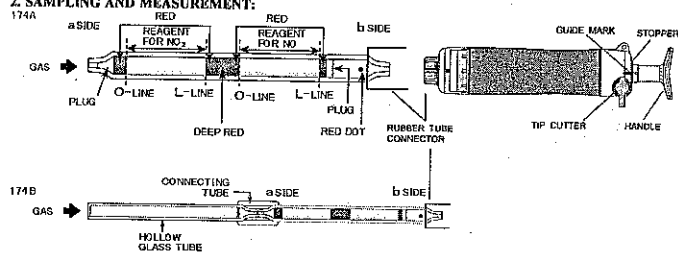
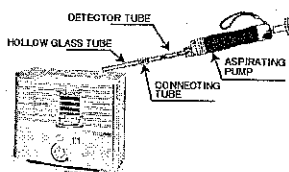
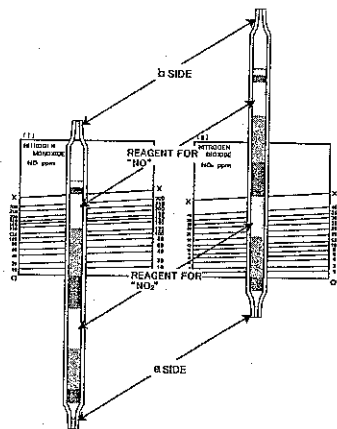

Fig. 1
Fig. 2
Fig. 3
- ① Break both ends of the detector tube.
- ② Insert the end of the detector tube of the b SIDE into the aspirating pump securely as shown in Fig. 1.
- ③ Align the guide marks on the shaft and stopper of the aspirating pump.
- ④ Pull the pump handle to a full stroke until it locks and wait for 1.5 minutes or until the completion of sampling is confirmed with the flow indicator of the pump. (See descriptions about the flow indicator in the instruction manual of the pump.)
- ⑤ On completion of sampling, remove the detector tube from the pump and read a concentration with the concentration chart as shown in Fig. 3.
※ In case of 174B, connect the hollow glass tube to the detector tube with connecting tube as shown in Fig. 1 and Fig. 2.
1. Concentration charts (I), (II) for Nitrogen oxides are provided for reading each concentration of NO and NO₂ respectively.
2. Place the edge of the detecting reagent of the gas inlet side to the 0 - 0 line on the concentration chart and the other edge to the X - X line respectively to read out a each gas concentration of NO and NO₂ at the end of the discoloured layer as shown in Fig. 3.